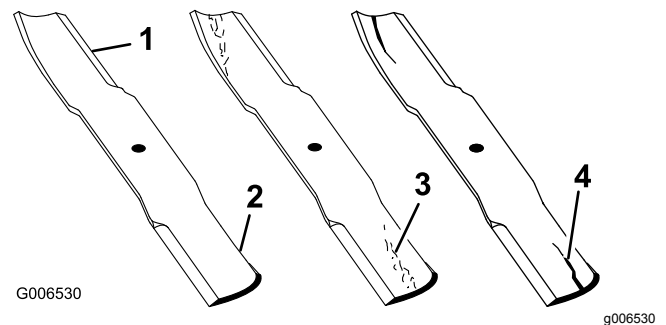

Figure 61
1. Inspect the cutting edges (Figure 61).
2. Inspect the blades, especially the curved area (Figure 61).
Note: If you notice any damage, wear, or a slot forming in this area (items 3 and 4 in Figure 61), immediately install a new blade.